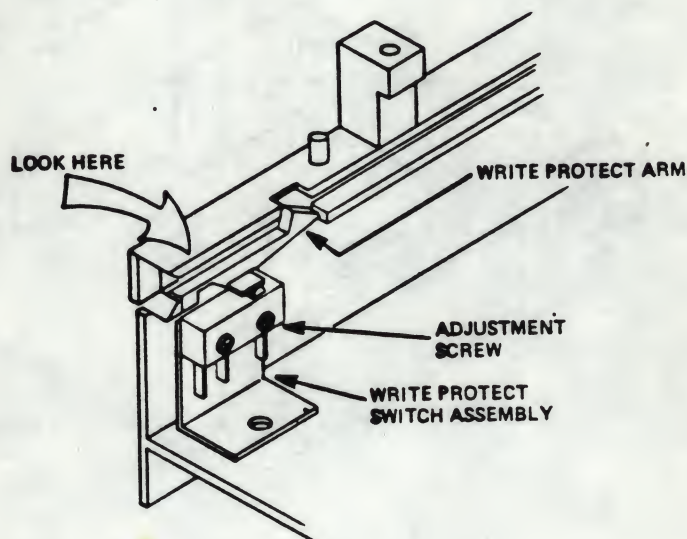

Figure 5-23
5.12.1 Visually ensure that the arm on the Write Protect Switch Assembly moves the switch and makes a clicking noise when the arm is pushed down (see Figure 5-23).